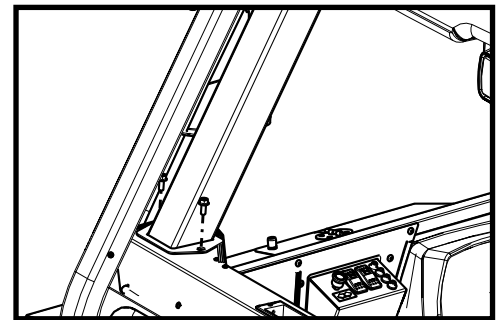

Figure 9.2: Heater Duct
- 9.2 Fasten the front of the heater duct to the cowl (see Figure 9.2). Leave hardware loose.